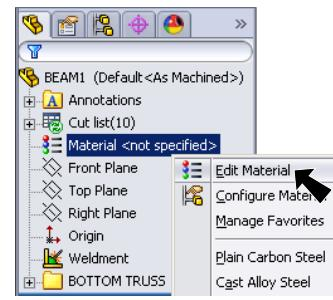

Fig. 31
Step 1. Right click Material in the Feature Manager and click Edit Material, Fig. 31.